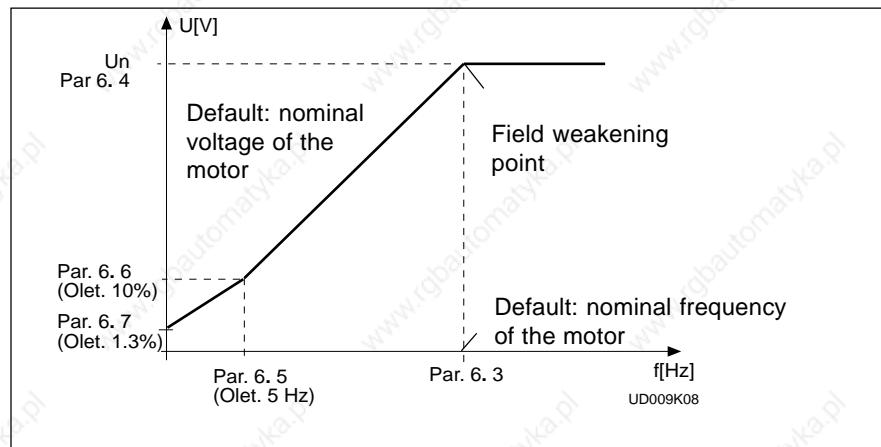

Figure 6.4-2 Programmable U/f curve.
- Programm. U/f curve 2** The U/f curve can be programmed with three different points. The parameters for programming are explained in Chapter 6.5.2. Programmable U/f curve can be used if the other settings do not satisfy the needs of the application. See figure 6.4-2.